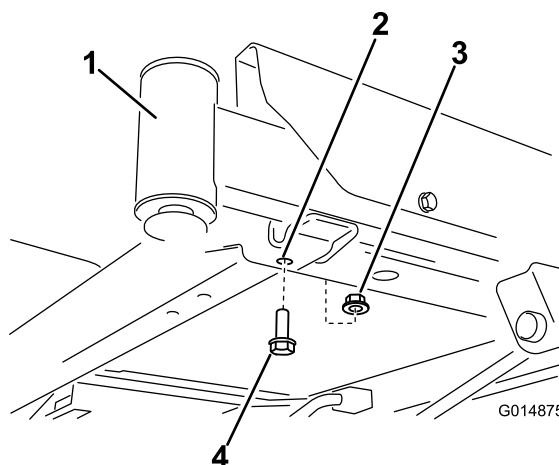
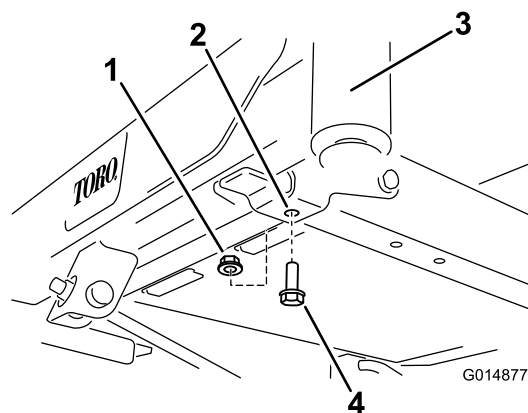

Figure 3
Figure 4
1. Locate the front bolts on the underside of the frame (Figure 3 and Figure 4).